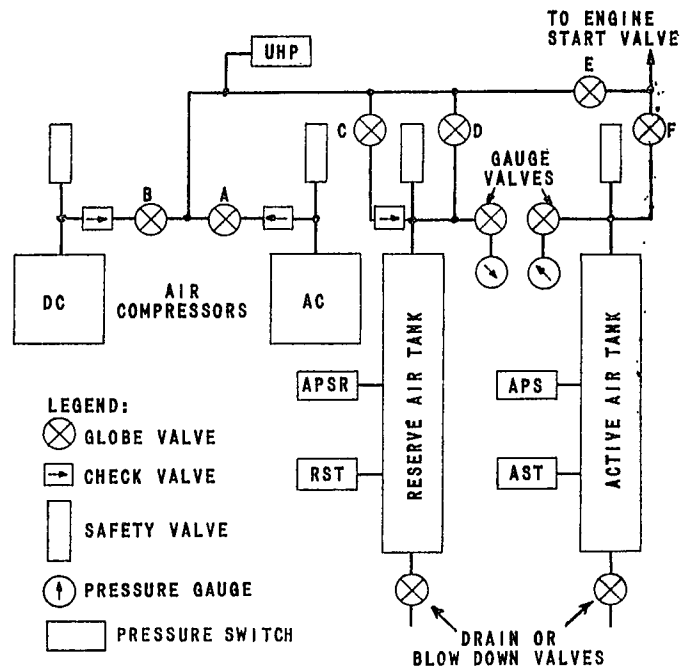

FIG. 1 TYPICAL AIR STARTING SYSTEM SCHEMATIC (PAR. 5,6.7)
1.31 Never do any work on the compressor without first shutting off the power to the compressor by opening the disconnect switch and closing valves such as A or B in Figure 1 to isolate the machine from the rest of the system.
5.2 Start the charge using the dc compressor. Open Valves B, C, E and F in Figure 1 and close Valves A and D. Install the fuse in the 48 volt dc line to the compressor and close the dc disconnect switch. Operate START button for the dc compressor.
8.3 Check these in combinations. That is, first the ac compressor feeding the active tank only, then the reserve tank only, and then with the dc compressor feeding the active tank only, and next, feeding the reserve tank only. Referring to Figure 1 operate the valves necessary to provide these charging combinations. To use the ac compressor above 250 psi, place it on Manual operation (HAND) so that it will run to this pressure.